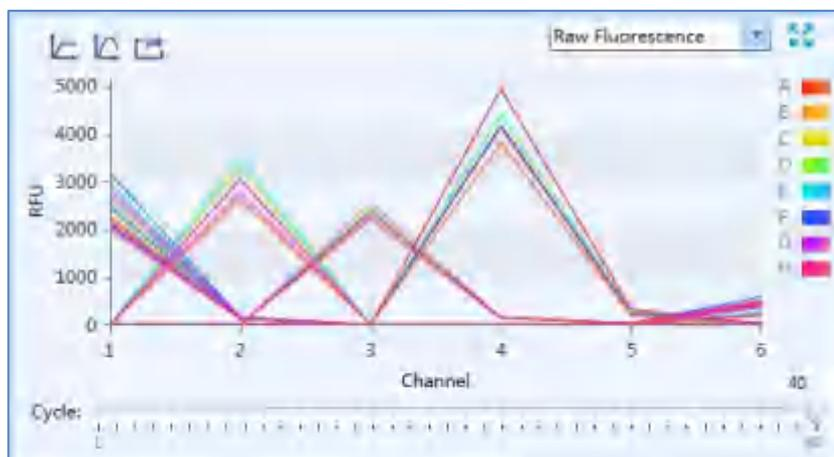

Figure D-8.6. Abs Quant analysis interface - Raw Fluorescence functional module
- VI. **Raw Fluorescence**: display the raw fluorescence data map of the current experiment, as shown in figure D-8.6.